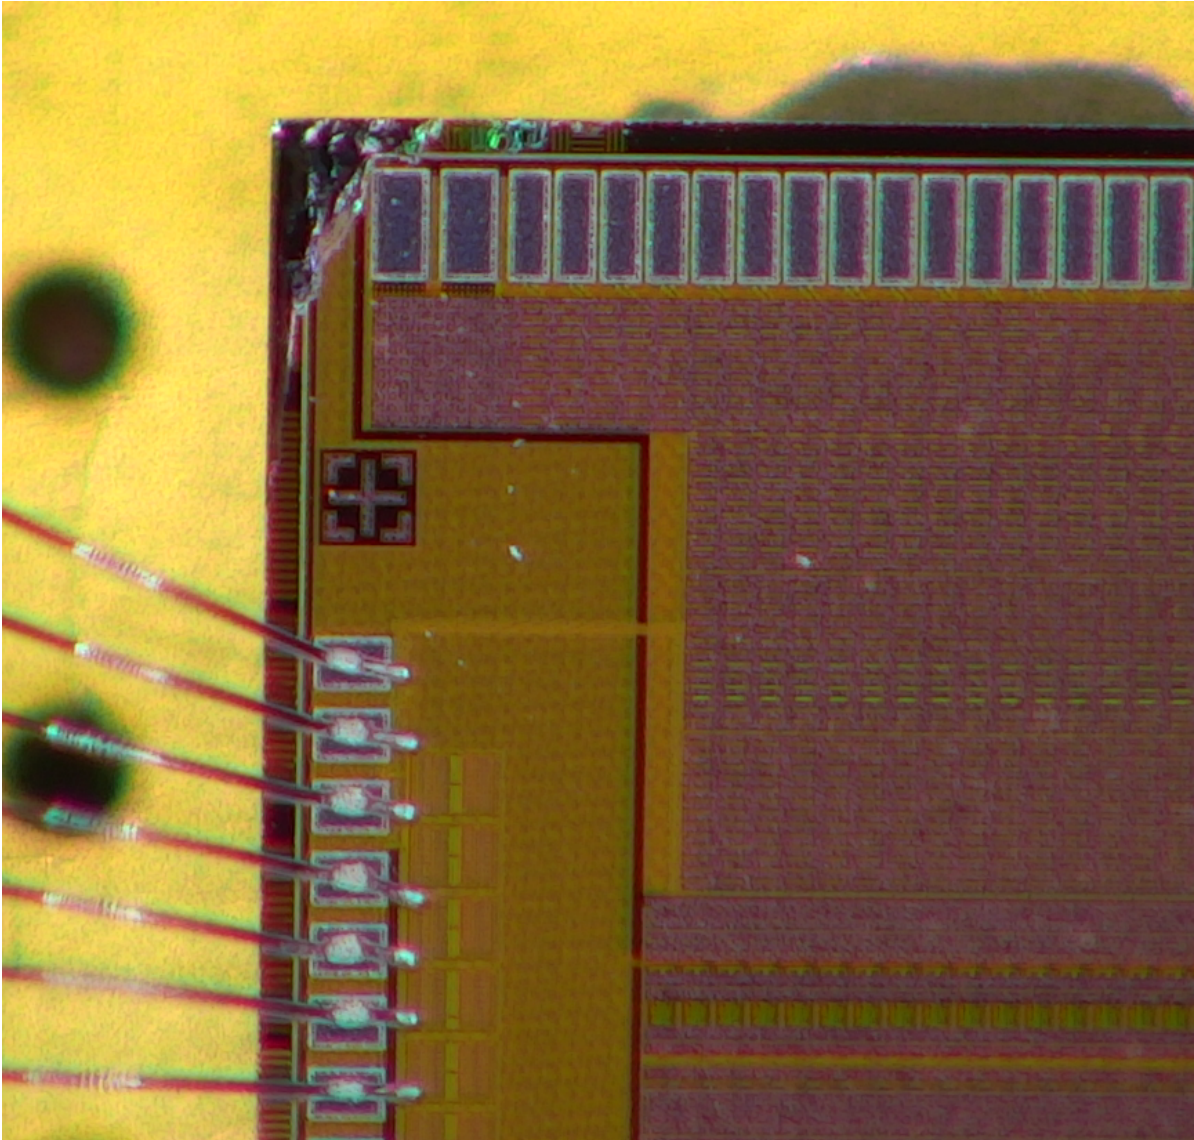

Figure 145: Damaged corner of ASIC 4
- ASIC fully functional without cap-PCB; ASIC corner damaged (see fig. 145);